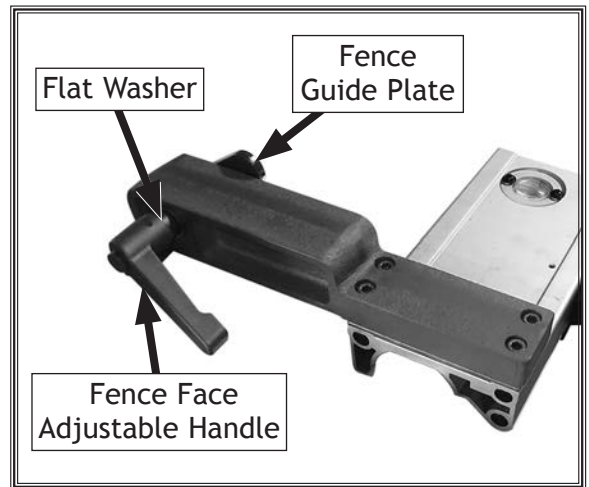

Figure 27. Fence face adjustable handle and fence guide plate installed.
- Install fence face adjustable handle onto fence base with (1) 8mm flat washer, and thread into fence guide plate (see **Figure 27**).